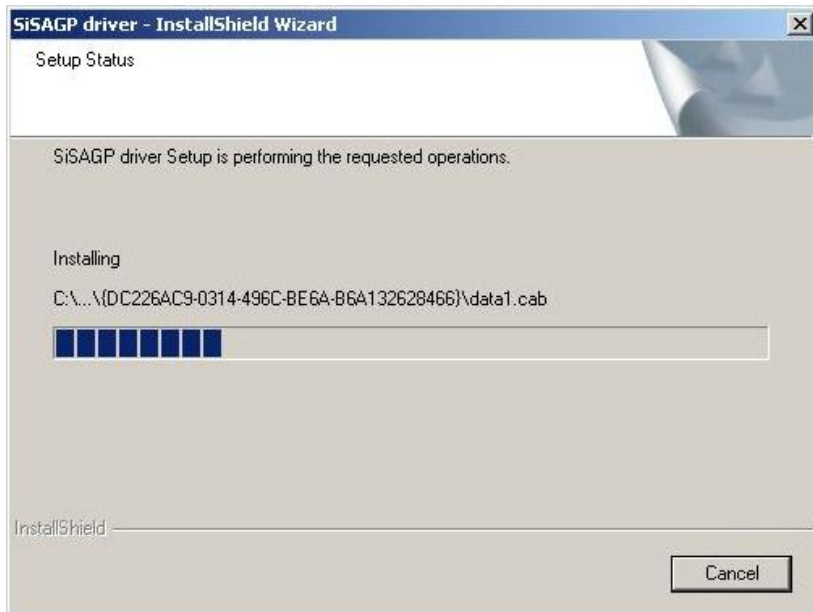

Figure 6-15: Installing Screen
Step 6: The installation shield starts to extract and install files (**Figure 6-15**).